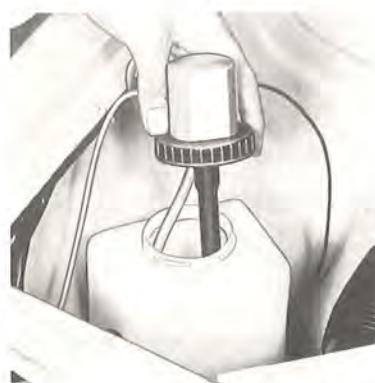

Fig. 1-18. Fluid container
4. Check that the fluid container for the windscreen washer is filled (see Fig. 1-18).